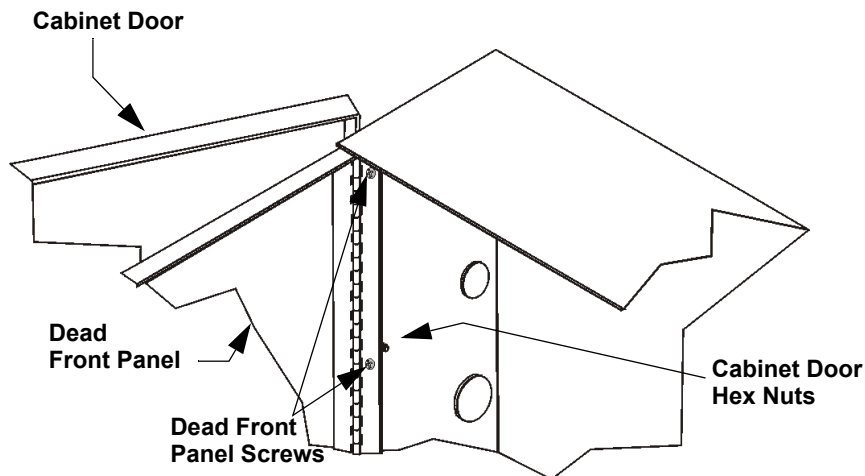

Figure 4-4 Cabinet Door and Dead Front Panel Removal
- Using a Phillips head screw driver, remove the six screws that hold the dead front panel in place. See Figure 4-4.
- Using a 1/4" Hex drive, remove the six Hex nuts that hold the cabinet door in place. See Figure 4-4.